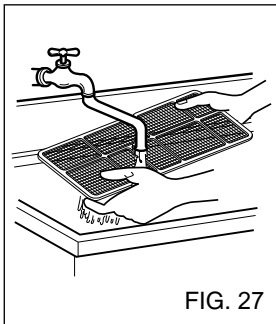

FIG. 27
- Wash the Air Filter under the faucet with warm water. Be sure to shake off all the water before replacing the filter. (FIG. 27)